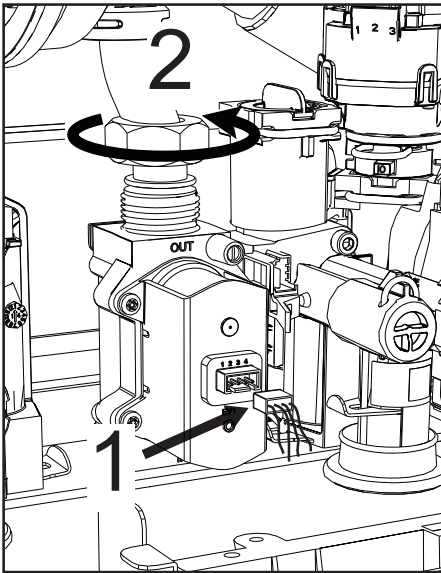

fig. 57
- Disconnect the electrical connectors "1" (fig. 57).
- Disconnect the gas supply pipe "2" (fig. 57)